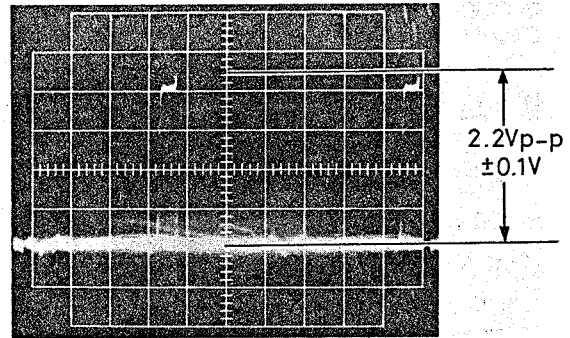

Fig. 4-14 Beam Current Adjustment
8. Adjust ABO control (RT1325) until the waveform is clipped at $2.2Vp-p \pm 0.1V$ (Fig. 4-14).